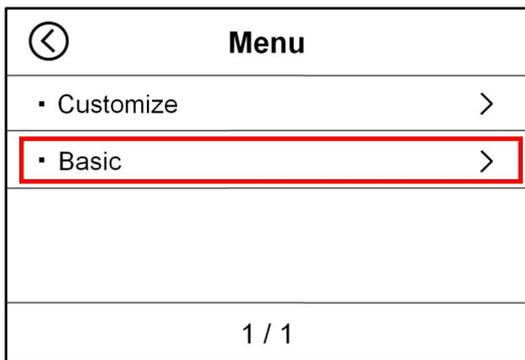
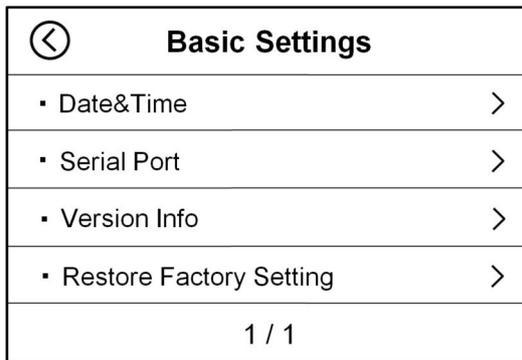

Figure 39
Figure 60
1) Press the “” key to enter the main interface of USER MENU, as shown in Figure 39 below, Press “**Basic**” to enter into Basic Settings, as Figure 60.